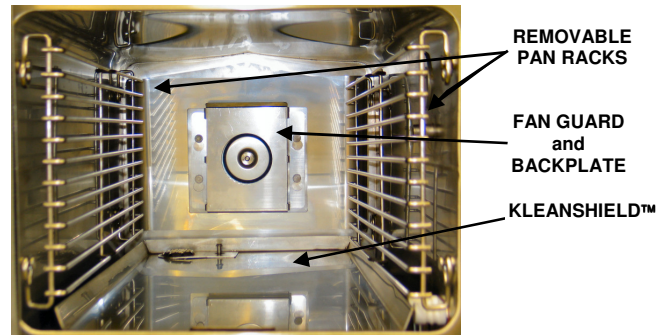

Figure 4-2 Inspecting Compartment Interior Accessories (SteamChef 3.1 Shown)
3. Check for proper installation of the KleanShield™, fan guard, backplate, slide racks (See Figure 4-2), and door gasket assembly.